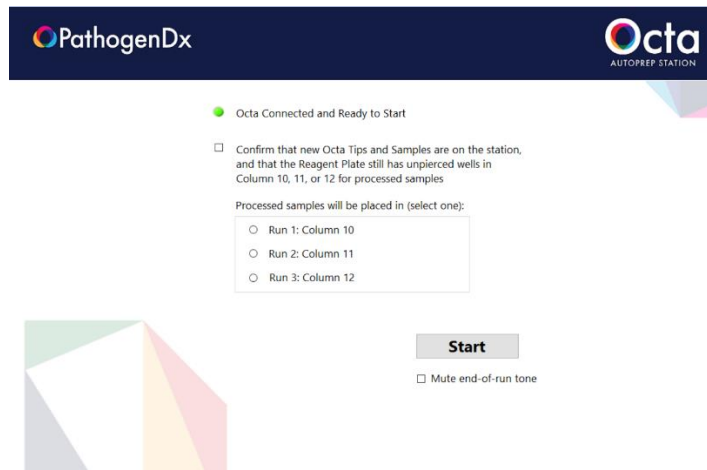

Figure 3: Octa AutoPrep Station User Interface
7. The software will perform an initialization process when both the computer and instrument have been turned on, and the user interface will be displayed as shown in Figure 3. Please contact PathogenDx if any connection issues arise.